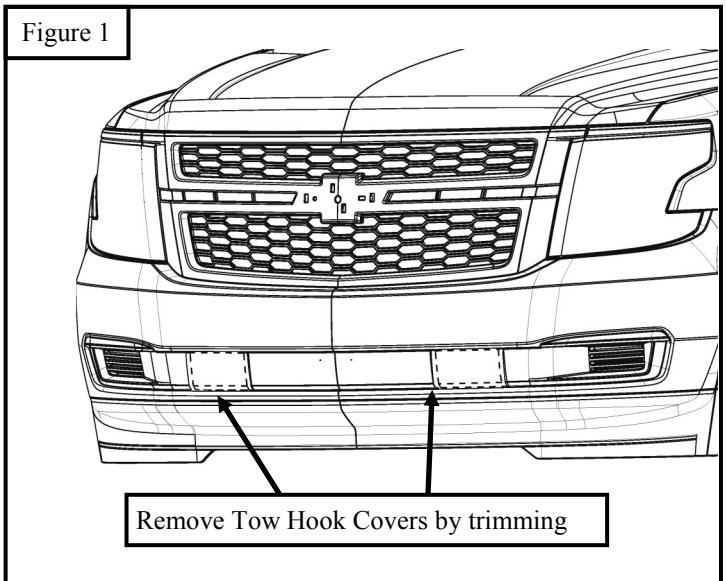

Figure 1
- Locate the two rectangular covers on the bumper insert. These rectangular covers will need to be removed. Trimming may be required (Figure 1). Note: Some models may have factory tow hooks installed, if so, the tow hooks will have to be removed and trimming is required.
- Locate the Passenger and Driver side Bottom Brackets (items 5&6 on Figure 5), and position each one where the rectangular piece is trimmed (Figure 5). Refer to (Figure 1) on the previous step.